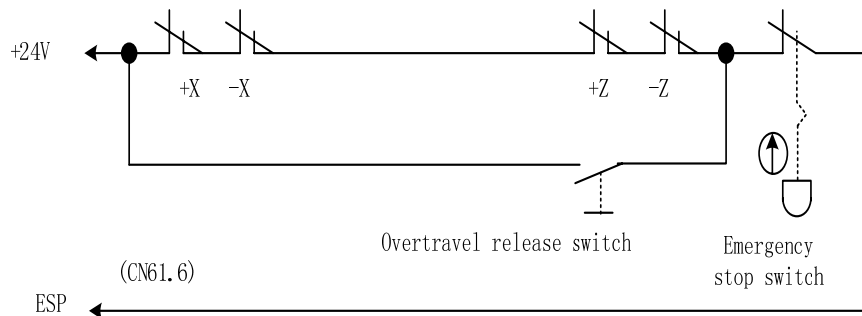

Fig.2-34A Series connection between emergency stop and travel switch
(1) The series connection between the emergency stop and travel switch is shown in Fig. 2-34A: